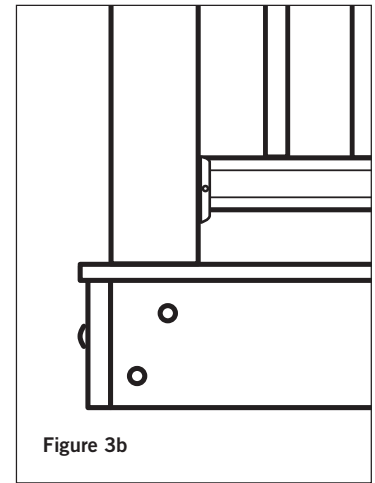

Figure 3b
Step 3 Position, plumb with a level, and clamp the rail post on the interior face of the joist. Plumb again. The 4x4 railing post should be bolted to the inside of the joists using two 1/2"x6" galvanized carriage bolts. Corner posts use a third carriage bolt inserted through the adjacent joist (Figure 3b).